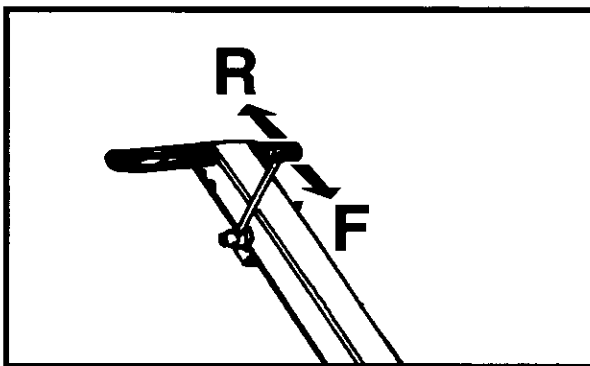

Figure 5-10 Forward/Reverse Direction Control Lever.
1. After the engine has warmed up, quickly move the Throttle Lever to High Idle position when the centrifugal clutch will engage automatically, causing the compactor to simultaneously vibrate and move in the selected F = Forward or R = Reverse direction, refer figure 5-10.